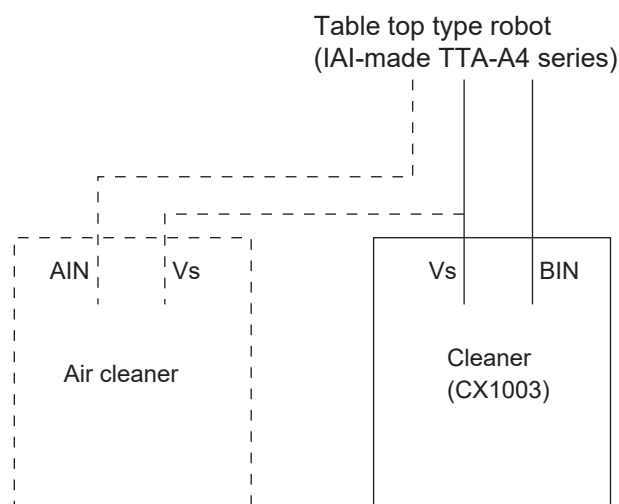

Fig. 7-35
⑧ After setting is completed, click “write to dev” and the setting is written to table-top type robot (IAI-made TTA-A4 series). If you do not intend to fix this setting, click “Cancel”.
⑨ In the Option screen, beside the cleaner (CX1003) included in the set, air cleaner could also be set. See Fig. 7-35 for wiring of the air cleaner from the table-top type robot (IAI-made TTA-A4 series).
If AIN and BIN is connected opposite in the wiring shown in Fig. 7-35, cleaning by brush will operate with the cleaning by air setting, and cleaning by air will operate with the cleaning by brush setting.